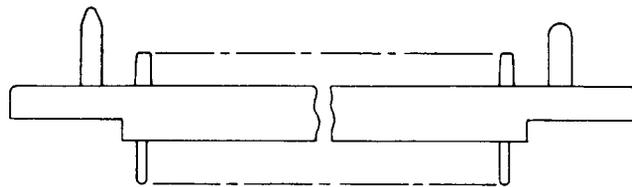

Fig. 2—KS-20868-Type Connector
**2.02 KS-20868-Type:** The KS-20868, L1 through L8 (Fig. 2) are polarized, multicontact, male connectors consisting of a rectan-